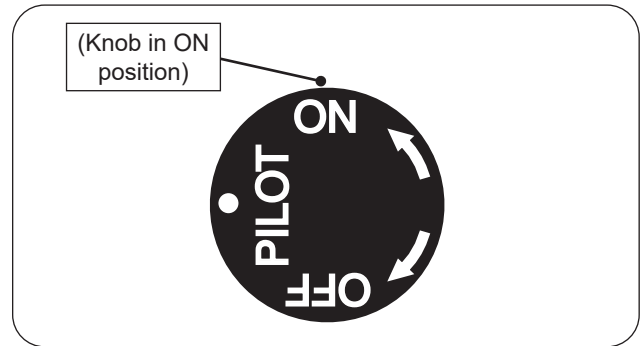

Fig. 20-1 Manual lighting
1. Ensure the pilot is burning. Turn the control knob counterclockwise ↶ to **ON** to ignite the burner (see Fig. 20-1). The valve will open and the burner will light.